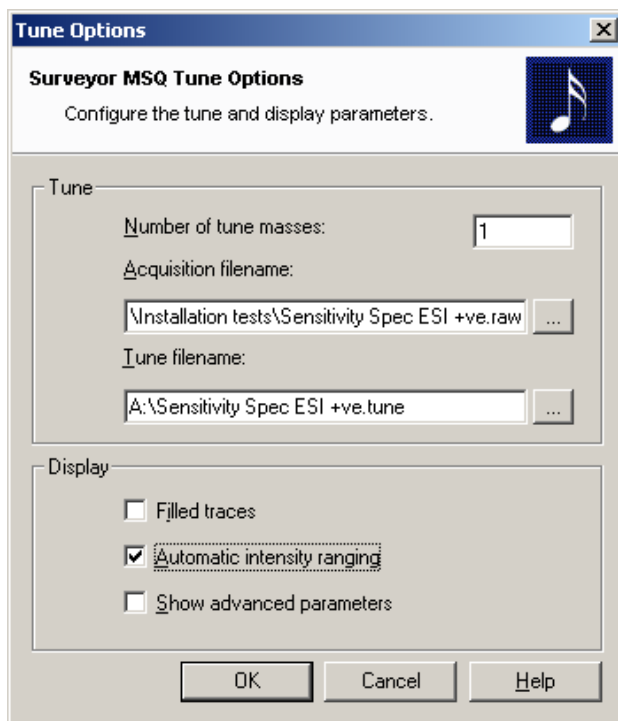

Figure 2-16. Tune Options window
- Using the button to the right of “Acquisition filename,” browse through to **-C:\Xcalibur\Installation\Installation tests** and type in: **Sensitivity Spec ESI +ve.raw**. Check that the Tune filename is **A:\Sensitivity Spec ESI -ve.tune** (see Figure 2-16) and that the check boxes in “Display” are selected as shown. Click **OK**.